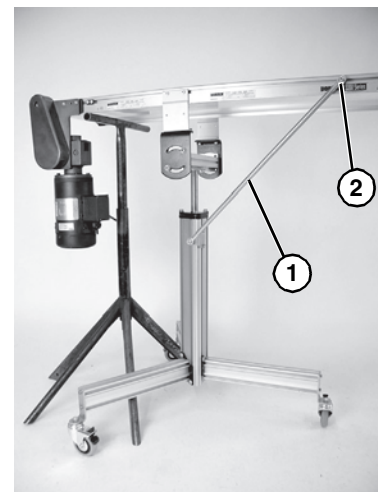

Figure 23
<p>Failure to secure screw (Figure 23, item 2) may cause conveyor sections to drop down, causing severe injury.</p> <p>TIGHTEN ALL SCREWS (Figure 23, item 2) AFTER ADJUSTMENT.</p>
- If installed, reattach brace (Figure 23, item 1) and tighten brace fastening hardware (Figure 23, item 2) to 100 in-lb (11 N-m).